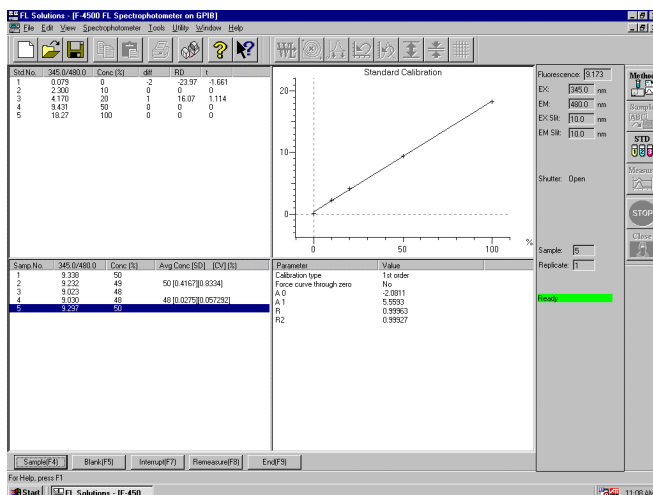

Fig. 4-24
- (6) For conducting remeasurement after completing a series of measurements, click the data area to be remeasured as shown in Fig. 4-24 and then click the **Remeasure** button. For saving data after remeasurement, click the End button or  button. The procedure is the same when a sample table is used. Both standards and samples can be remeasured.